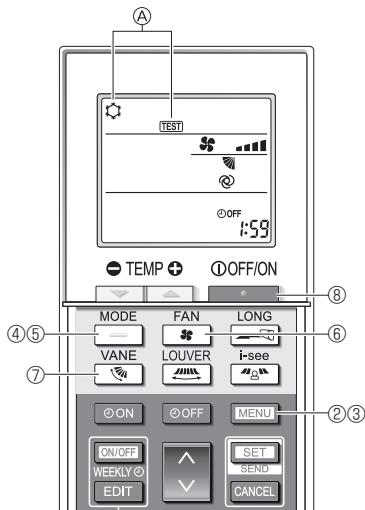

Fig. 7-10
- ① Turn on the power to the unit at least 12 hours before the test run.
- ② Press the **[MENU]** button for 5 seconds. (Fig. 7-10)
Ⓐ [TEST] and the current operation mode are displayed. (Fig. 7-10)